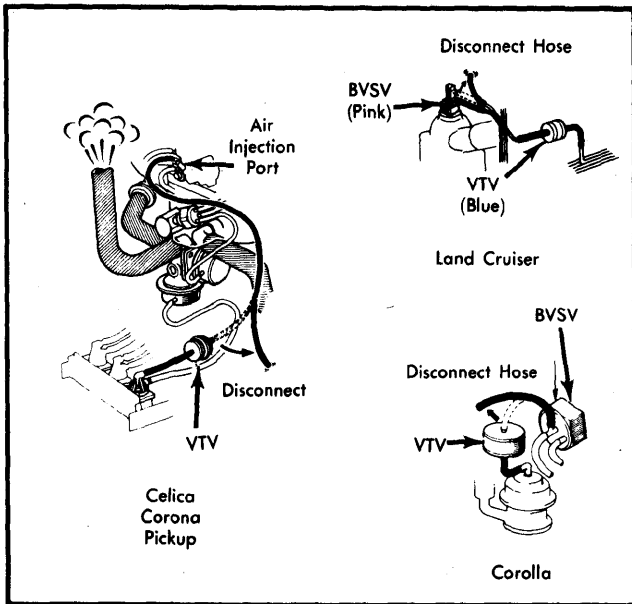

Fig. 5 VTV Hose Locations for System Check
3) On all models, disconnect VTV hose as shown. Air should be discharged from air by-pass hose within 10-20 seconds on Corolla and Land Cruiser, and within 15-30 seconds on all other models. Reconnect hose. See Fig. 5.